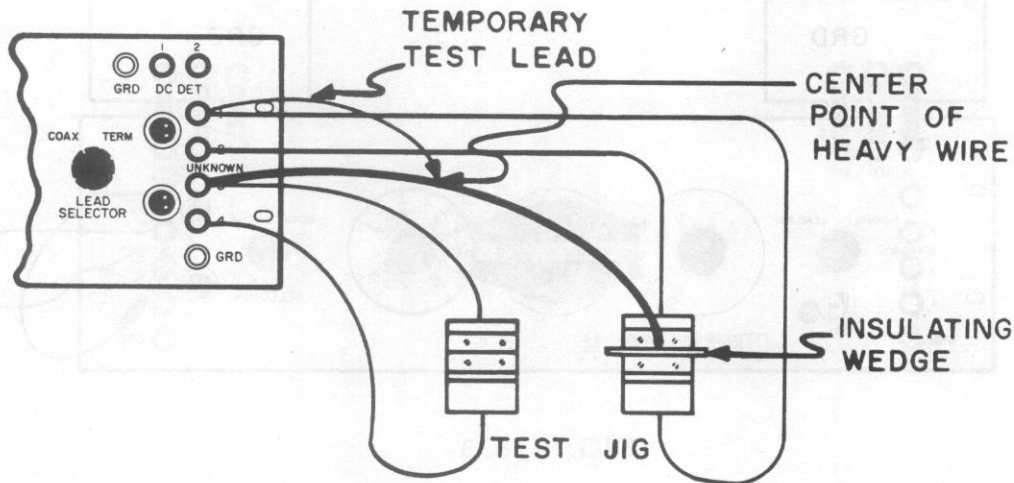

FIG. 2.6.4
1. Bring the end of the UNKNOWN 2 lead as close as practicable to the bridge, then connect its end to UNKNOWN 3 through a short, heavy piece of wire or bus bar, as shown in Fig. 2.6.4.